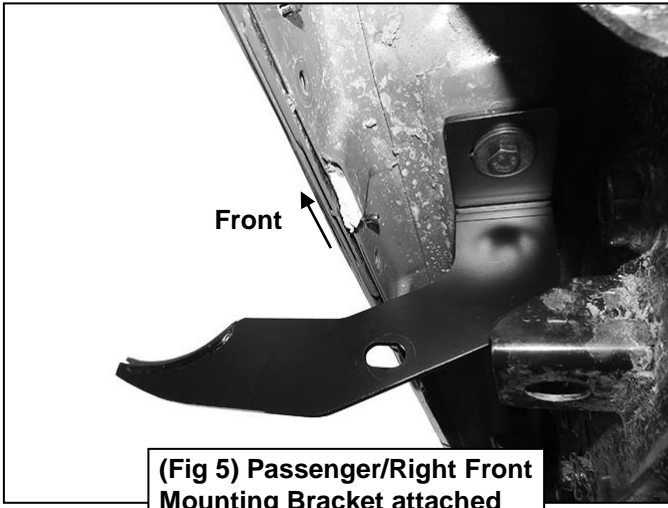

**Fig 3**
- Select the Passenger/Right Front Mounting Bracket, **(Figure 3)**. **IMPORTANT:** Use the illustration above and **Figure 3** to properly identify the Mounting Bracket. Attach the Mounting Bracket to the threaded insert using (1) 8mm x 35mm Hex Bolt, (1) 8mm Lock Washer and (1) 8mm Flat Washer, **(Figures 4 & 5)**. Do not tighten hardware.
- Move to the 2nd mounting location and locate the threaded insert and pair of holes in the pinch weld, **(Figure 9)**. Repeat **Steps 3 & 4** to install the Passenger/Right Center Mounting and Support Brackets, **(Figures 3, 10—12)**. **NOTE: The Center and Rear Mounting Brackets look similar but each one is unique. The Center Support Bracket has a hole in the top and a notch on the bottom. The Rear Support Bracket has a notch at the top, (Figure 11).** Do not tighten hardware.
- Move to the last mounting location on the rocker panel and locate the threaded insert and pair of holes in the pinch weld, **(Figure 13)**. Repeat **Steps 3 & 4** to install the Passenger/Right Rear Mounting and Support Brackets, **(Figures 3, 11 & 14)**. Do not tighten hardware.
- Select the Passenger/Right Sidebar. Use the illustration above to select the correct Sidebar. Carefully position the Sidebar onto the (3) Mounting Brackets. **IMPORTANT:** Do not slide, (front to back or rotate), the Sidebar on the Brackets or damage to the finish on the Sidebar may result. Attach the